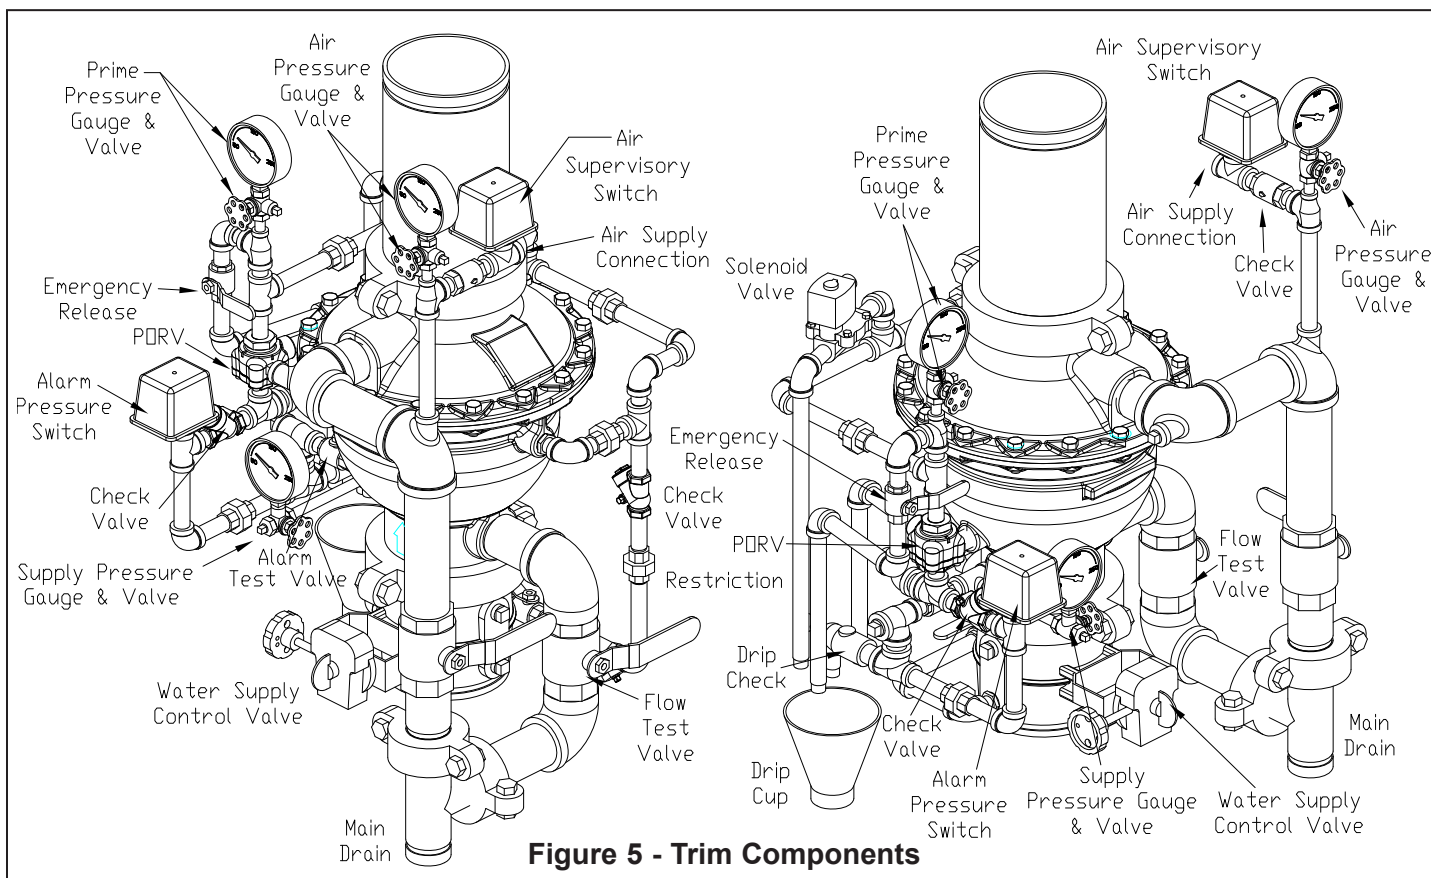

Figure 5 - Trim Components
F. Placing the Valve in Service: (Refer to Figure 5.)
A. Low Air Pressure Alarm Test: (Refer to Figure 5.)
B. Full Flow Trip Test: (Refer to Figure 5.)
A. Taking the system out of service: (Refer to Figure 5.)